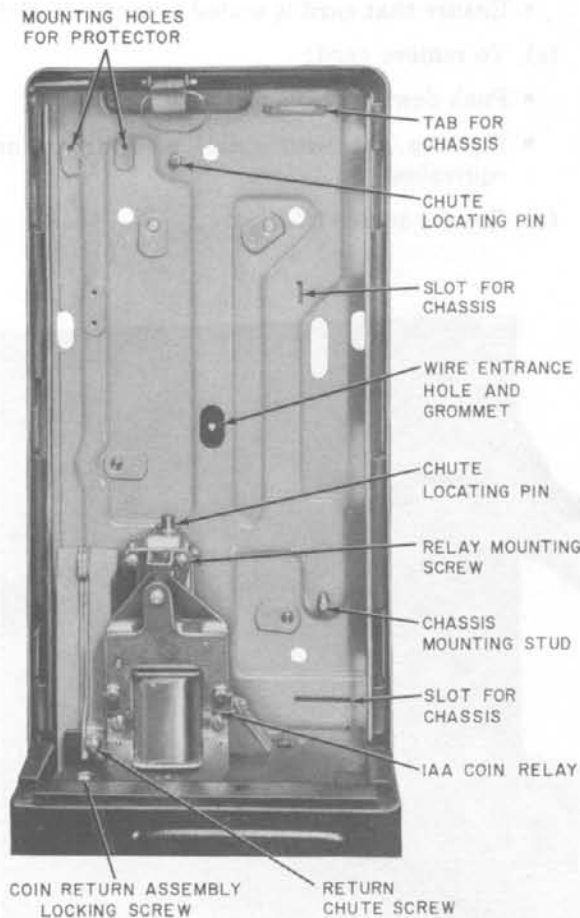

Fig. 12 — Housing and Mounting Plate Assembly (1C-Type)
(1) Place chute on locating pins at rear of hopper assembly, and back of housing (Fig. 12 and 13).
- (1) Slide chassis under tab (Fig. 12 and 13).
- (2) Seat chassis tabs in slots.
- (3) Tighten chassis mounting captive screw.
- (b) Feed inside wire through wire entrance hole (Fig. 12 or 13) as set is mounted on backboard.
- (e) Locate any protectors, connecting blocks, etc., where they will be inaccessible to person using coin telephone set. A 123A1A protector can be installed inside a 1C-type set when manufactured as shown in Fig. 12, using two P-205607 screws (8-32 X 1/2 brass RHM or equivalent) provided separately. Take care that lead dress does not interfere with chute operation if a protector is used. No provisions are provided for a protector in a 2C-type set.